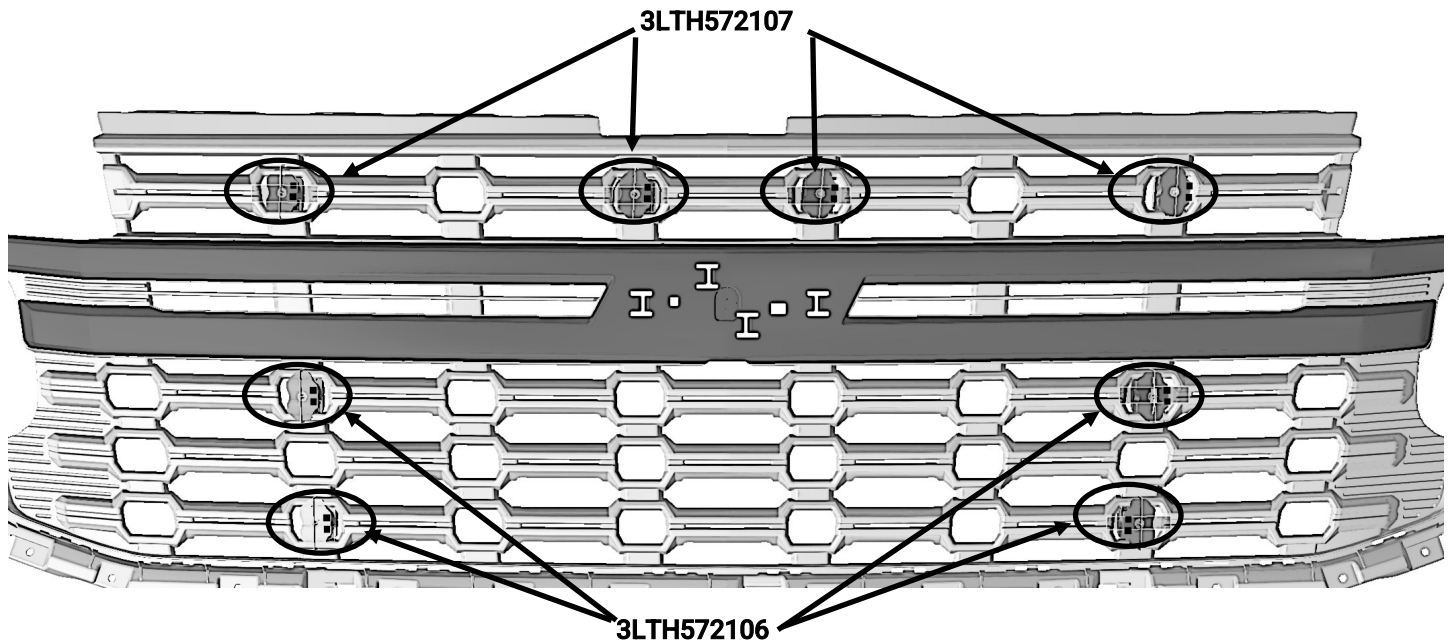

Figure 1
- A. Black threaded plugs [3LTH572106] will go in (4) lower locations as shown and blue threaded plugs [3LTH572107] go in (4) upper locations. (Fig. 1).